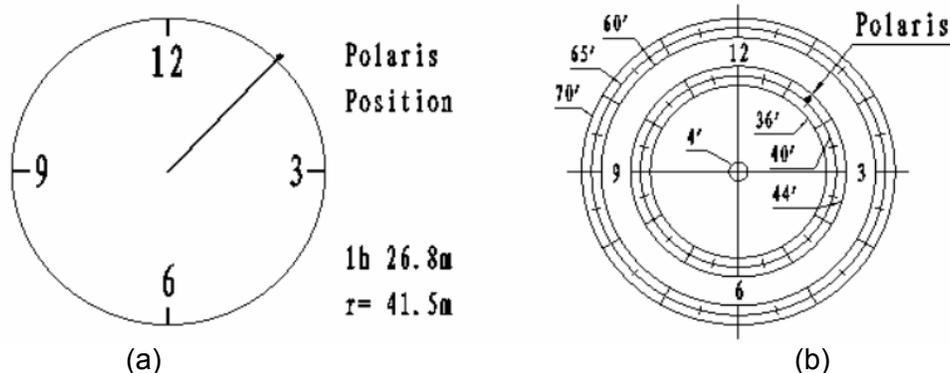

Figure 24. Polaris Position shown on HC (a) and where to put on polar scope dial (b)
- (3) Use the Hand Controller (**MENU** => "**Align**" => "**Pole Star Position**") to display the Polaris Position on the LCD screen, as indicated in the left side of the figure below. For example, on May 30, 2010, 20:00:00 in Boston, United States (Lat N42°30'32" and Long W71°08'50", 300 min behind UT, DST set to Y), the Polaris Position is 1hr 26.8m and $r = 41.5m$.
- (4) Look through the polar scope to find the Polaris. Use the Azimuth and Latitude Adjustment Knobs to adjust the mount in both directions and put the Polaris in the same position on the Polar Scope Dial as indicated on the HC LCD. In this case, the Polaris will be located at a radius of 41.5' and an angle of 1 hour 26.8 minute, as shown In Figure 24 (b).